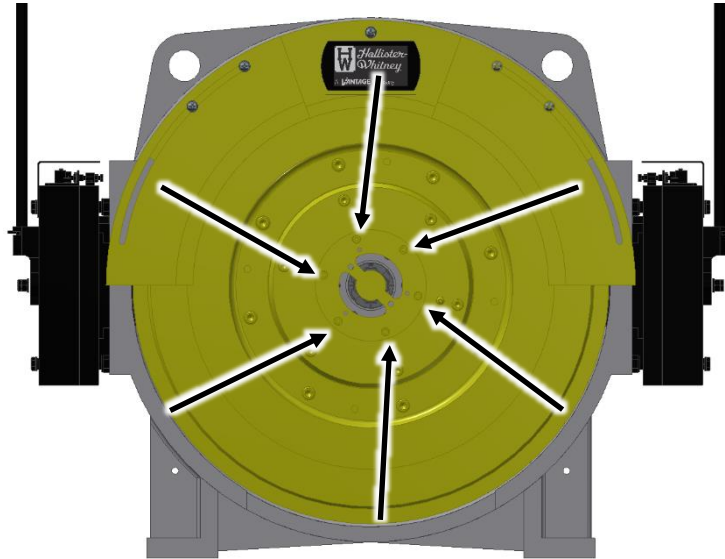

Figure 19
5. Remove the six M6 bolts (using a hex wrench (5mm)). See Figure 19.